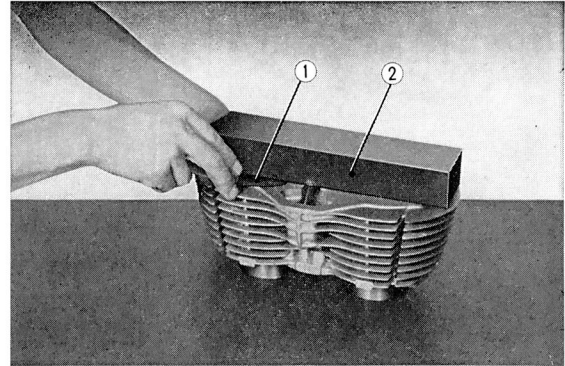

Fig. 3.17 Measuring flatness of gasket surface
1. Inspect gasket surfaces for evidence of blow by or distortion. If surfaces are warped by more than 0.05mm (0.002 in) correct by lapping on a surface plate. (Refer to Fig. 3.17)